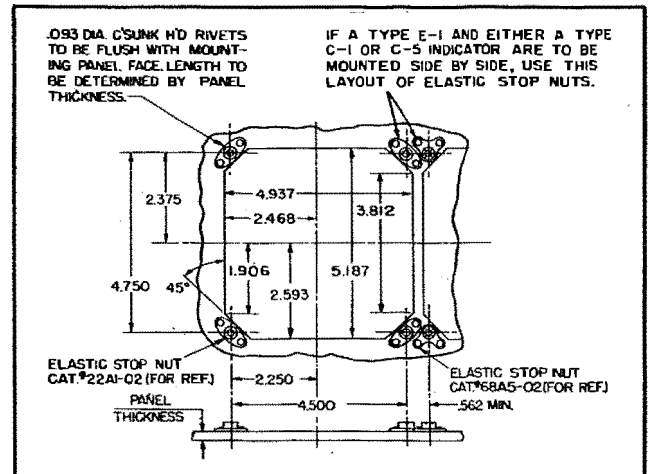

Figure 7 - Panel Cutout
(1) For this type of installation make the panel cut-out, drill the mounting holes and rivet elastic stop nuts to the panel as shown in figure 7.
(2) When the Indicator, and the Type E-1 Flight Indicator or the Type J-1 Attitude Gyro Indicator are to be installed, they should be mounted side-by-side. Panel cut-outs for both instruments are identical. Figure 7 indicates the type and location of elastic stop nuts to be used for an individual as well as a dual installation.